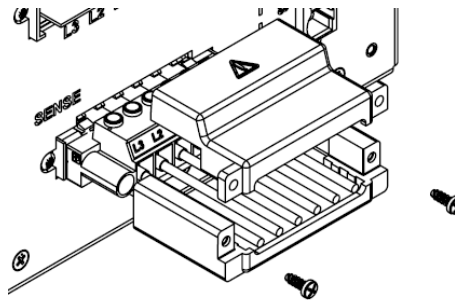
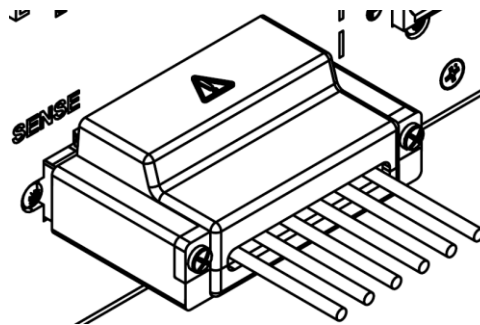

Figure 7-26: Fixing the Sense Cover
Figure 7-27: Final Assembly
9. Fix the output cover using 2 screws (WN1412(KA30X8)) provided with the power source; refer to **Figure 7-26**. Use a tightening torque of 5.2 lbf-inch (0.58Nm). Refer to **Figure 7-27** for the final assembly.